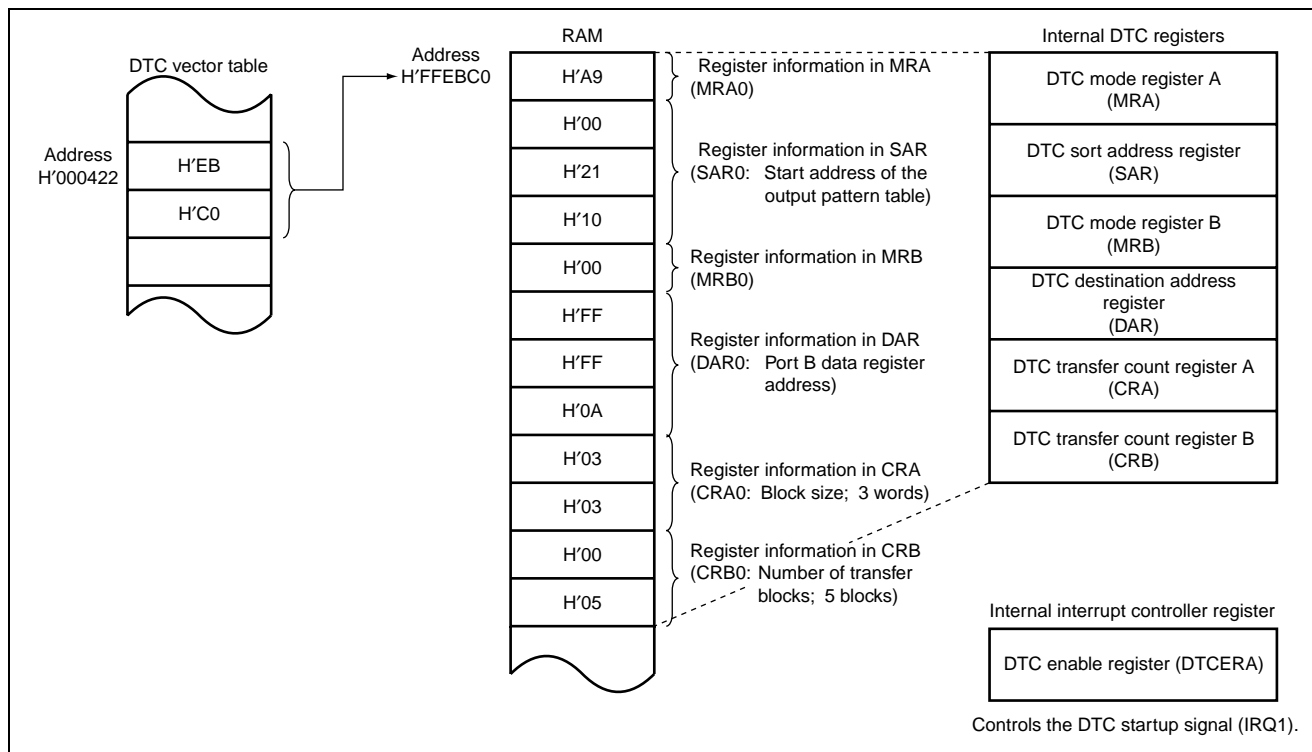

Figure 3 DTC Vector Table and Allocation Example in Memory
B. The DTC vector table and its allocation in memory are shown in figure 3. DTC register information is allocated in the order of MRA, SAR, MRB, DAR, CRA, and CRB from address H'FFEB0.